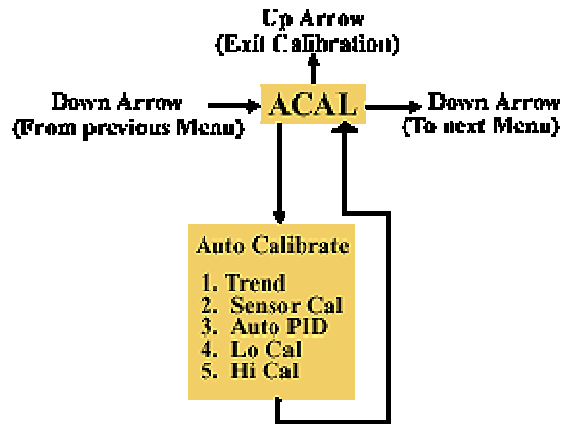

Figure 24
15.3.2. Enter and start the Automatic Calibration from the Menu level. From the menu level press the down arrow button until ACAL is shown on the display (ACAL Routine shown in Figure 24 below).